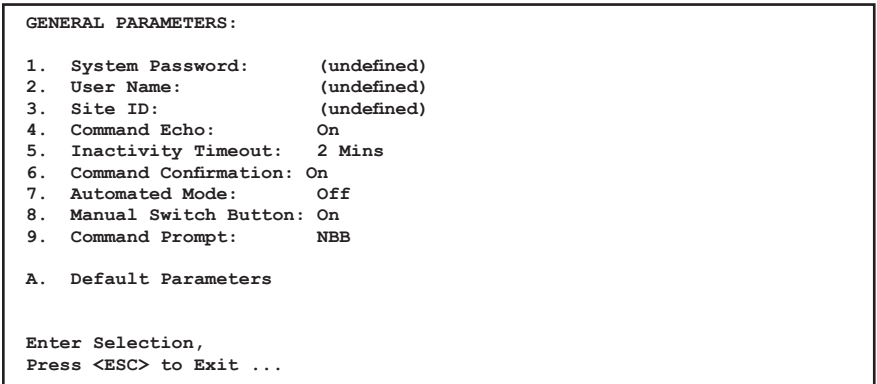

Figure 5.4: General Parameters Menu - Text Interface
- **Text Interface:** Type **/G** and press **[Enter]**. The General Parameters Menu will be displayed as shown in Figure 5.4.